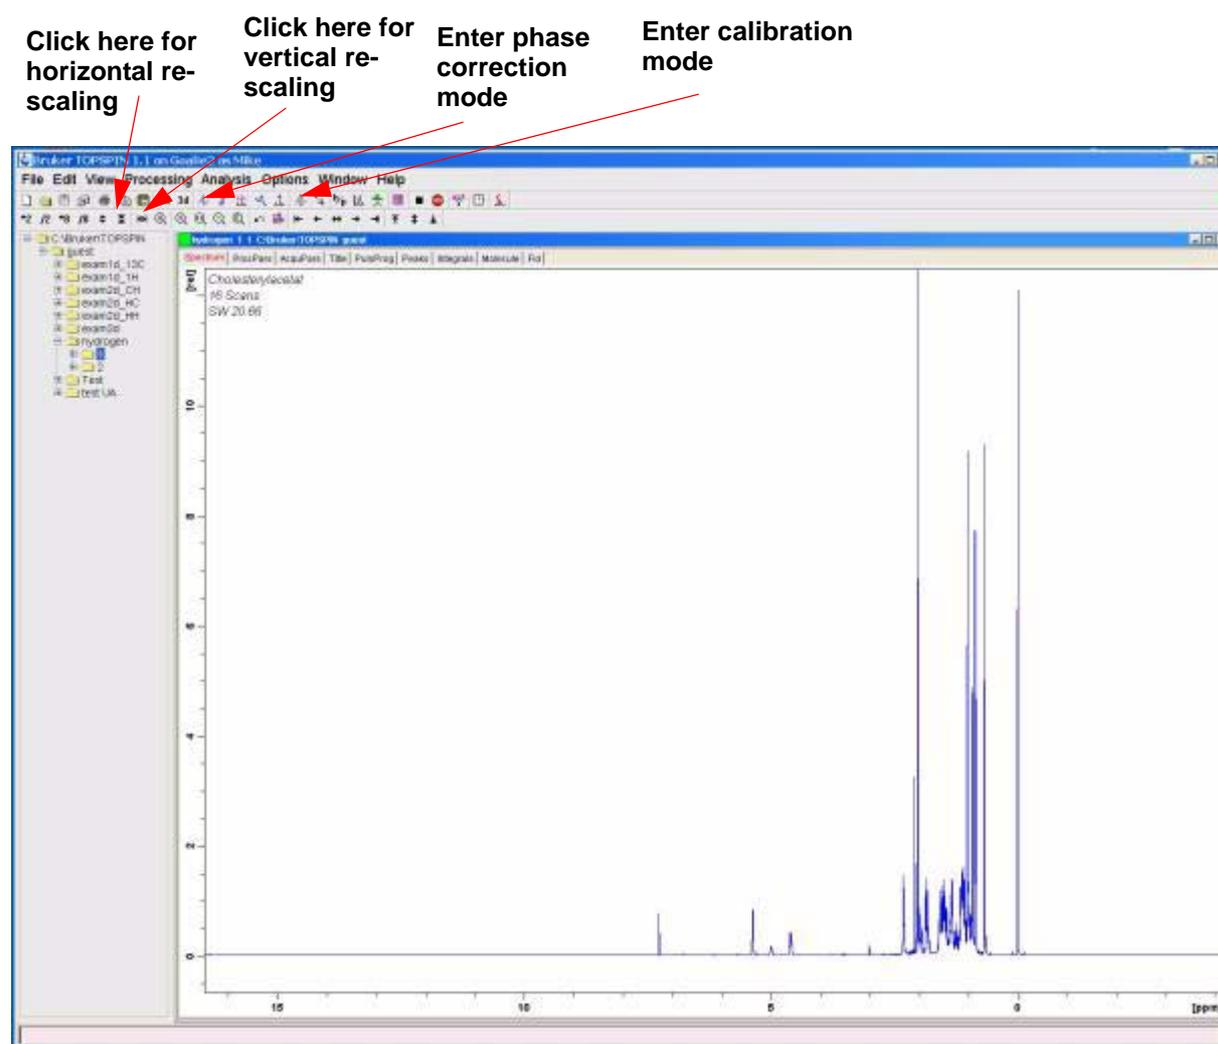

Figure 7.3: Some Useful Features of the Topspin Window
If at some stage the data disappears from view, click on the scaling functions demonstrated in **Figure 7.3**: to restore the data to the screen window.
3. To reset the horizontal spectrum and view the entire spectrum, click on the scaling button as demonstrated in **Figure 7.3**.